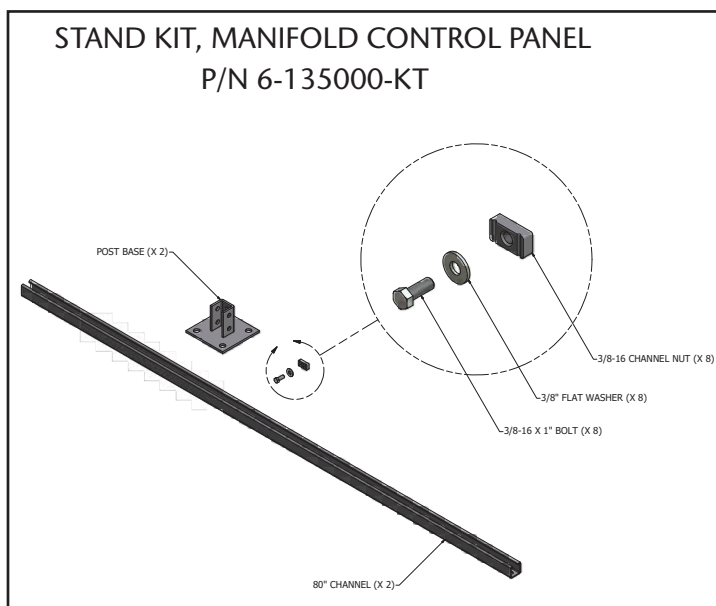
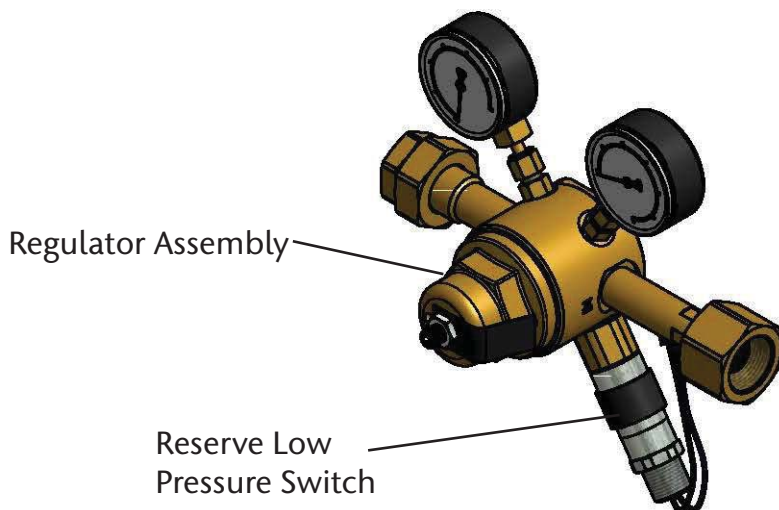
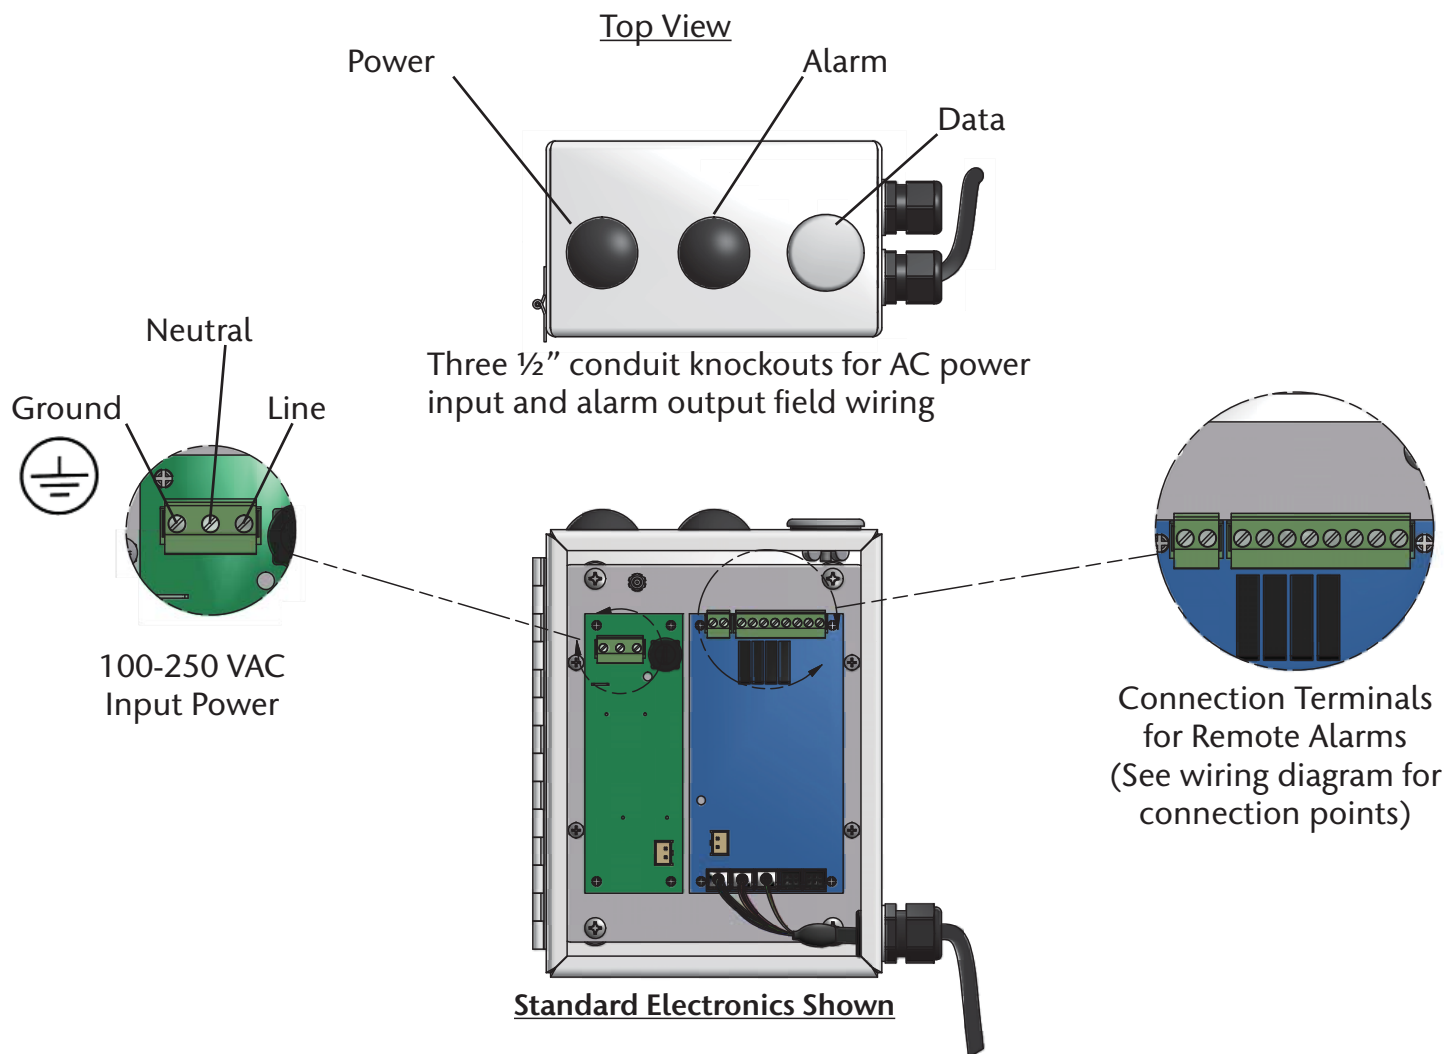

Figure 5
Figure 8
Figure 11
5. Attach post base to one end of each 80-inch channel as shown in Figure 8, Detail A. Use two each $\frac{3}{8}$ " bolts, flat washers and channel nuts per base. Tighten all four bolts.
6. Stand each channel / base side by side. Attach manifold mounting bracket to both bases as shown in Figure 8, Detail C. Use four each $\frac{3}{8}$ " bolts, flat washers and channel nuts per base. Top of bracket should be level and positioned 77 $\frac{1}{2}$ " above floor. Tighten all four bolts.
11. Set header stand in a vertical position roughly in alignment with two vertical control panel stands. Position header bracket against channel and on bottom side of header as shown in Figure 5. Attach bracket to channel as shown in Figure 8, Detail B. Use two each $\frac{3}{8}$ " bolts, flat washers and channel nuts. Tighten all bolts.
High pressure reserve header components may be shipped in several cartons. One carton will contain the control section assembly consisting of regulator assembly, and reserve low pressure switch as shown in Figure 8. Additional shipping cartons contain header extensions, cylinder pigtails, header wall brackets, master valve, and plug and nut. Depending on the number of cylinders, header extensions are configured with two or three cylinder inlets. Large reserve headers may also include combinations and multiples of each type of header extension.
The reserve low pressure switch is located on high pressure reserve header assembly (Figure 8) and must be wired to appropriate terminals inside power supply (Figure 11). See wiring diagram (Figures 32 and 33) for proper connection points. The pressure switch is equipped with 20" wire leads and a $\frac{1}{2}$ NPTM conduit connection. Stranded wire of at least 22 gauge is recommended. Maximum recommended wire size is 14 gauge.
Refer to Figure 11 for power supply connections.